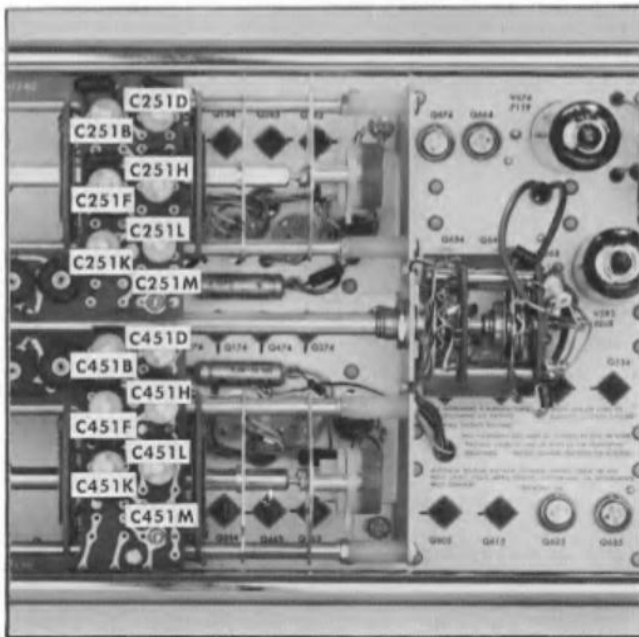

Fig. 2-15. Location of the .1 mVOLTS or 10 mVOLTS/DIV Deflection Factor High Frequency Compensation adjustments.
- c. Adjust CH 1 compensation capacitors (using Table 2-4 and Fig. 2-15) of the right-hand Type 3A3 for a lissajous pattern that approaches a straight line. See Figs. 2-16 and 2-17. This adjusts CH 1 of the right-hand unit to CH 1 of the left-hand unit.
- e. Adjust CH 2 compensation capacitors (using Table 2-4 and Fig. 2-15) of the right hand unit for a lissajous pattern that approaches a straight line. Leave the left hand unit VOLTS/DIV selector at 100 mV. Add attenuators to the input of the right hand unit as required.